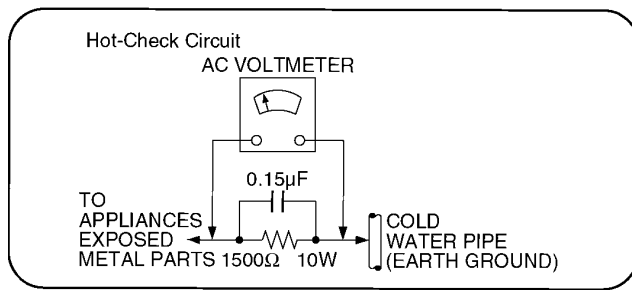

Figure 1
### 1.1.2. Leakage current hot check (See Figure 1.)
2. Connect a  $1.5\text{k}\Omega$ , 10 watts resistor, in parallel with a  $0.15\mu\text{F}$  capacitors, between each exposed metallic part on the set and a good earth ground such as a water pipe, as shown in Figure 1.